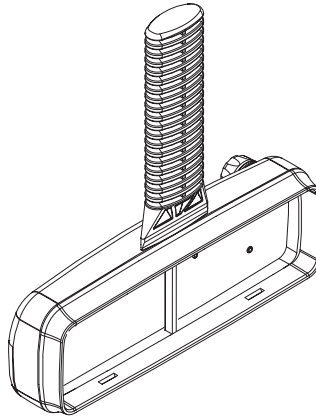

Figure 6 Control Head Back Housing Removal
1. Insert the dismantling tool in the middle of the radio assembly side groove as shown in Figure 6 - 3.
1. Remove six screws from the diecast cover using the T20 TORX™ driver as shown in Figure 6 - 4.
3. Slowly lift the transceiver board on the edge at the front of the radio (the edge that mates with the control head) and pull gently toward the front of the radio as shown in Figure 6 - 5. Take care to slide the antenna connector and power connector out of the chassis towards the front.